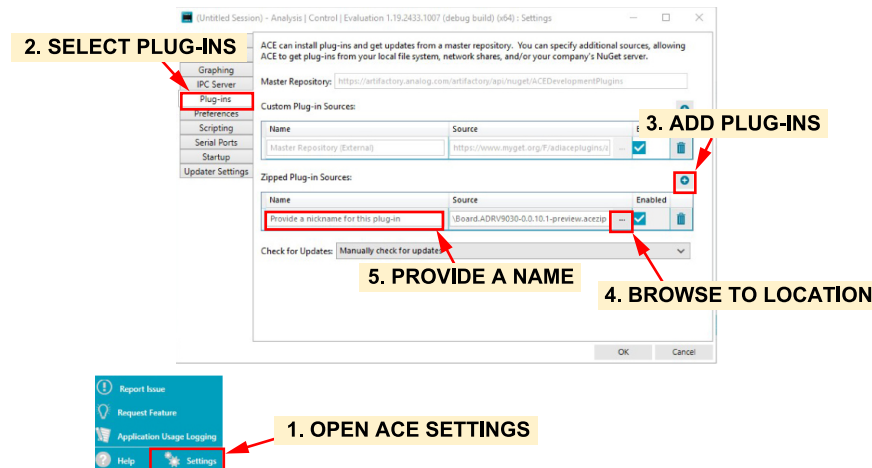

Figure 66. Adding ADRV903x Plugin as a Zipped Source in ACE Settings, Once Added, Run ACE Plug-in Manager to Install the Plugin
The user can install the ADRV903x plugin by providing the plugin .acezip file path to ACE under **Settings** as shown in Figure 66. The steps are as follows:
3. Add a new plugin by clicking on the **+** button under **Zipped Plug-in Sources** as shown in Figure 66.